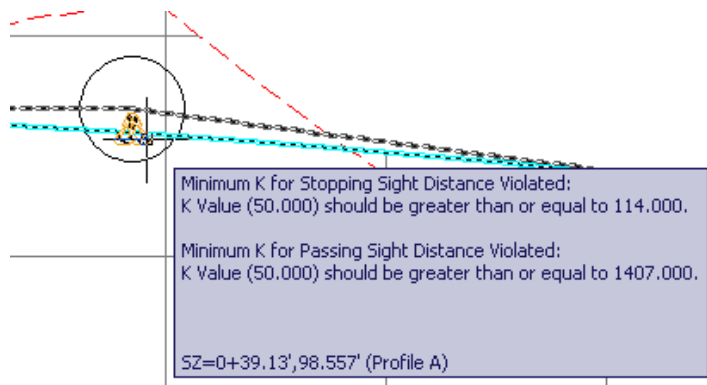

Figure 6-52 The tooltip displayed with the violation message
3. Zoom at the violation error and move the cursor over the violation symbol; a tooltip message showing the type of error is displayed, as shown in Figure 6-52. In this case, the message reads minimum K value for Stopping Sight Distance criteria is violated.